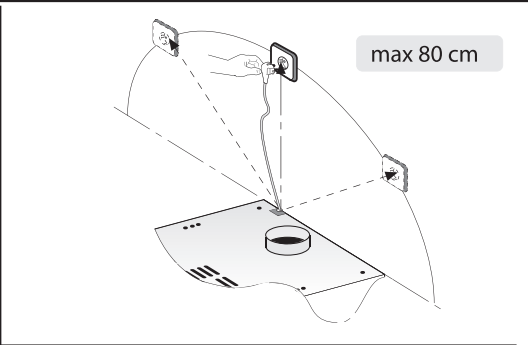

Fig.2
1. Fixing the hood to the lower part of the wall cabinet (Fig.2)
- Make 4 holes in the wall cabinet respecting the measurements indicated in figures 2 **A-2 C**.
2. Fixing the hood to the wall (Fig.2).
- Make 4 holes in the wall cabinet respecting the measurements indicated in figures 2 **A-2 B**.